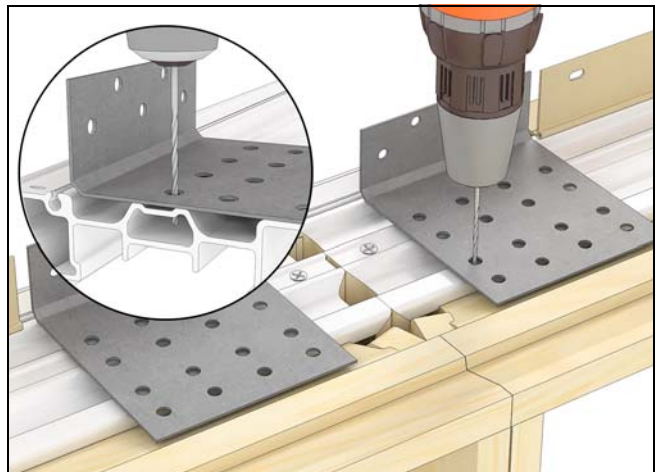

Figure 4
2. Carefully drill 3/32" (2) pilot holes through the first layer of the Ultrex frame at each hole location marked previously. See Figure 4.